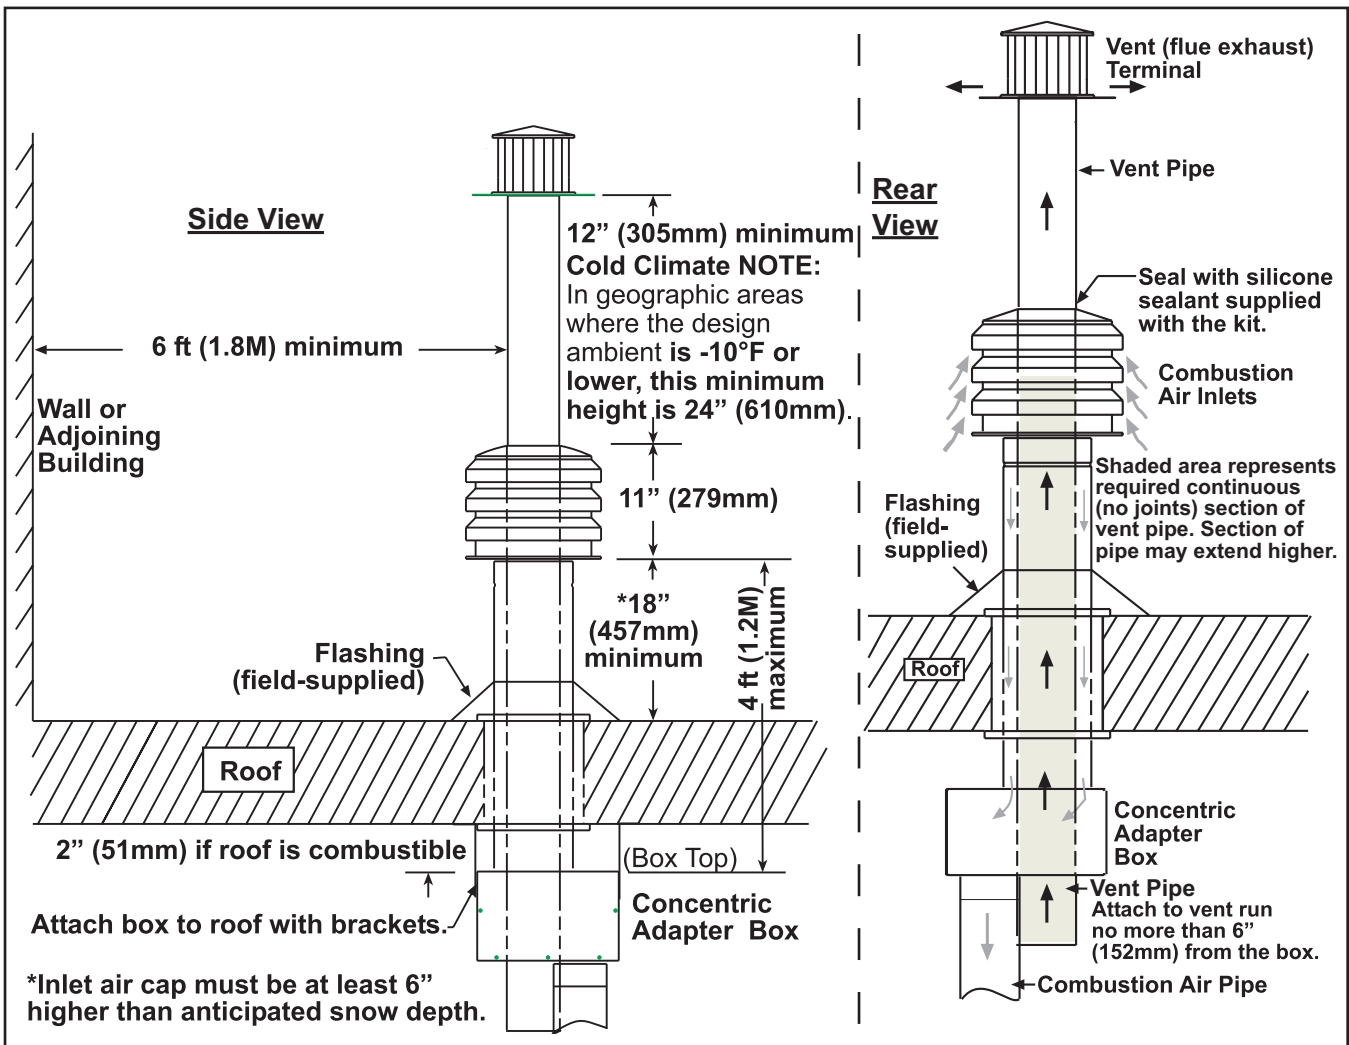

Figure 25. Option CC2 Installation
- b. Select location away from fresh air intakes, allowing space for concentric adapter box inside. Vent terminal must be located away from adjacent buildings as shown in Figure 25.
11. Verify compliance with Figure 25 and with all specific venting requirements listed above.